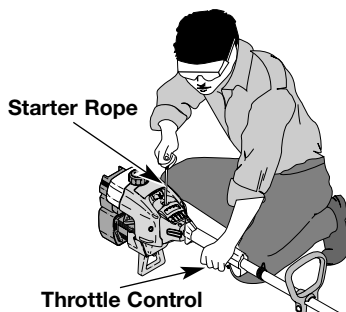

Fig. 9
WARNING: Avoid accidental starting. Be in the starting position when pulling the starter rope (Fig. 9). The operator and unit must be in a stable position while starting to avoid serious personal injury.
5. With the unit on the ground, squeeze the throttle control and pull starter rope briskly (Fig. 9). Continue pulling until the engine sounds as though it wants to run, (normally 2 to 5 pulls).
7. Pull starter rope briskly 1 to 3 times to start the engine (Fig. 9).
1. Release your hand from the throttle control (Fig. 9). Allow the engine to cool down by idling.